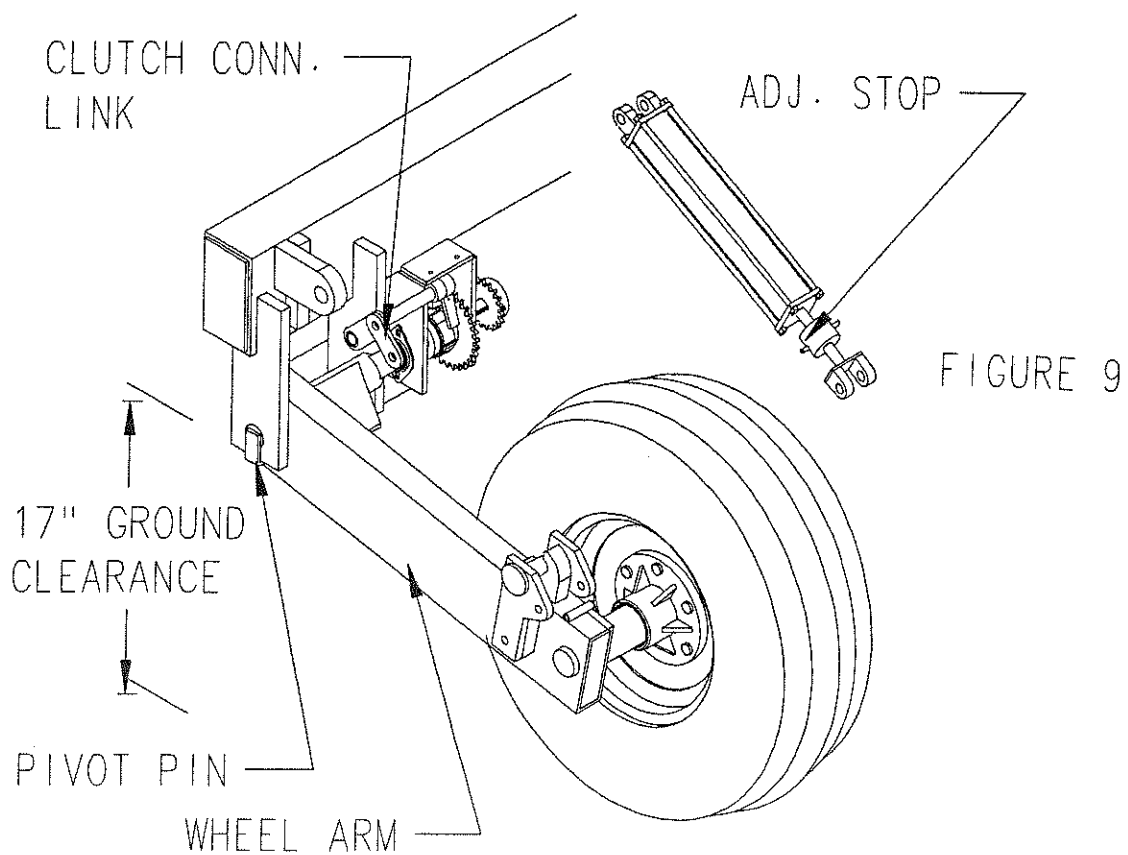

FIGURE 9
1. Lower the drill and check the 17" dimension as shown in Figure 9. Measure from the ground up to the bottom of the plate where the end wheel arm is attached.